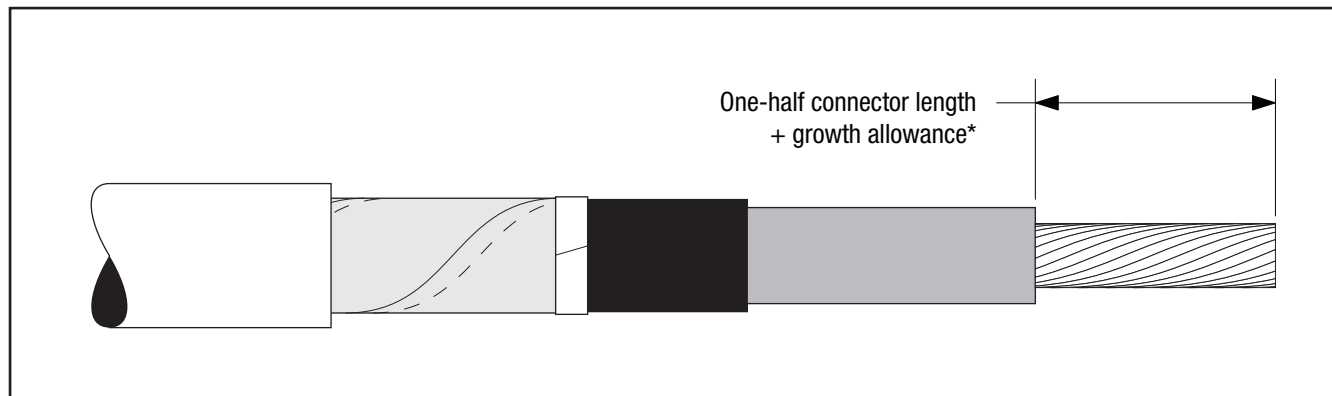

Figure 6
- 3.3 If using a crimp type connector,** remove cable insulation for 1/2 connector length plus an allowance* for increases in connector length due to crimping. Insulation removal length shall not exceed 2 1/4" (57 mm) from conductor end. **Do not install connector now** (Figure 6).